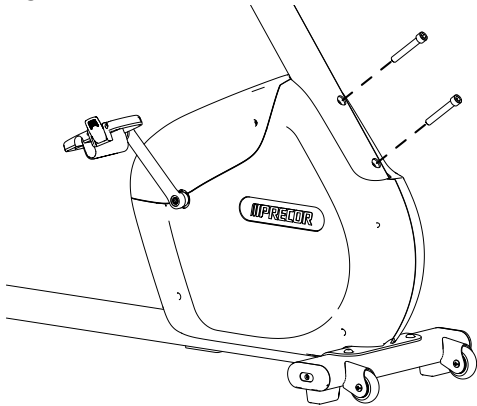

Figure 12
- 8. Insert two M12 x 80 mm SHCS through the opening on the support and into the holes on the body assembly (Figure 12). Fully tighten using a 10 mm hex wrench.